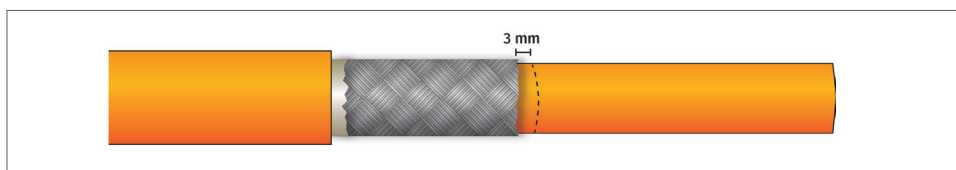

Fig. 7-9: Step 4: Marking the inner sheath
- Slide a 10 mm long piece of heat-shrink tubing over the HV power cable up to the mark (Fig. 7-9).